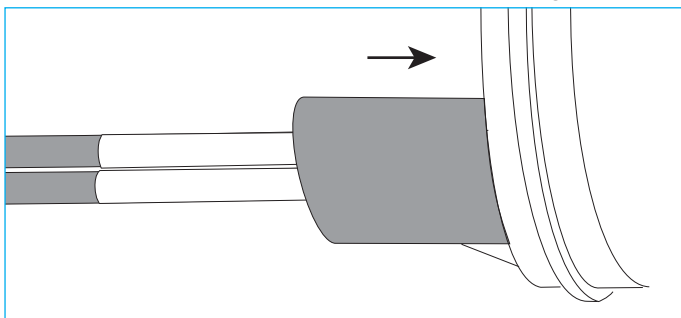

Figure 31.
- 9.4.6 Slide the tube back onto the port, being sure that the edge of the tube butts against the closure base. (Figure 31)